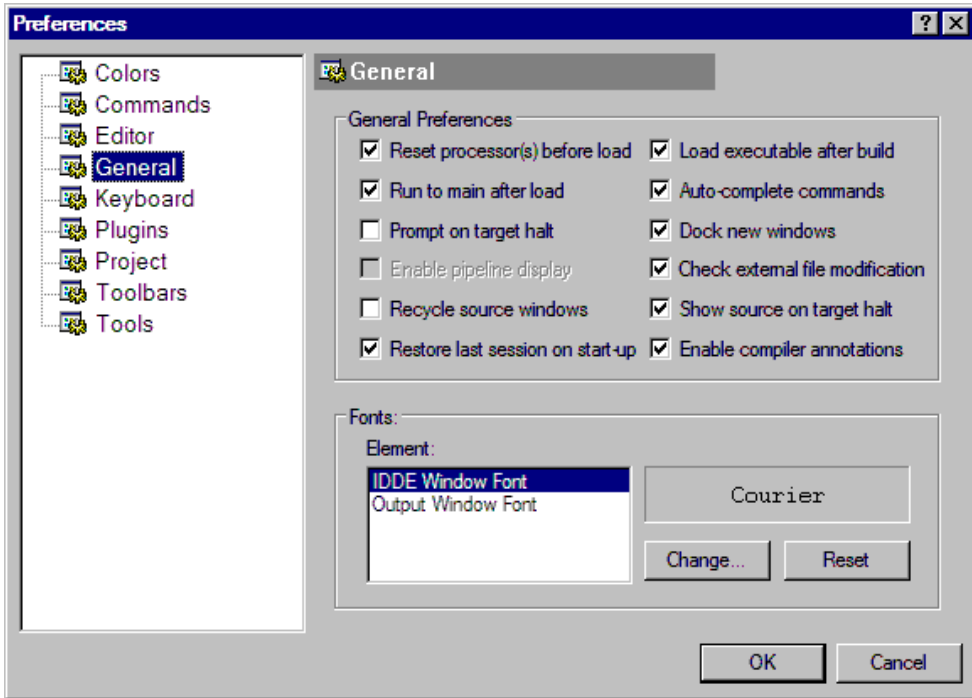

Figure 2-3. Preferences Dialog Box
- From the **Settings** menu, choose **Preferences** to open the **Preferences** dialog box, shown in Figure 2-3.